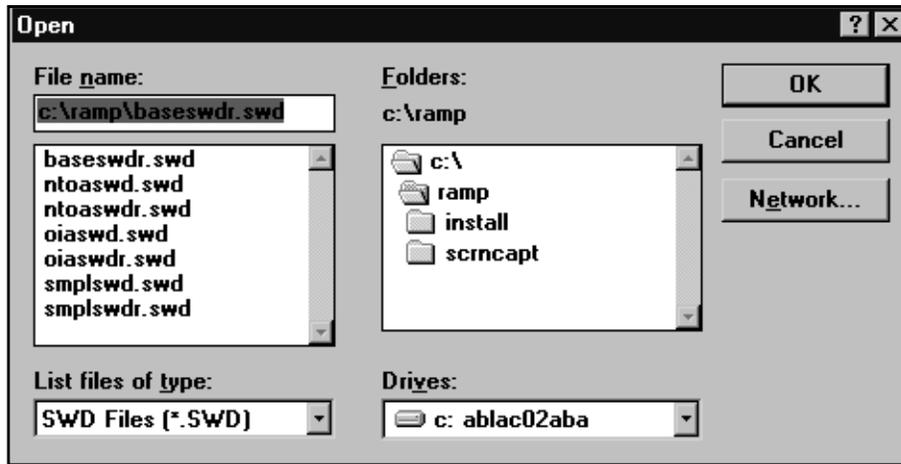

FIGURE 40. Open dialog box
4. In this window, select File in the top menu bar, then select Open. (See Figure 40.)